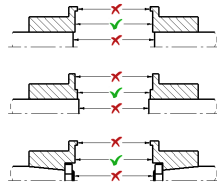

Figure 4
**IMPORTANT** DBSE should be measured between the inner face of the hubs and should not be taken as the length of the transmission unit at its outer periphery. DBSE may not be equal to the precise distance between shaft ends. In particular, the faces of taper bored hubs may not be flush with the shaft end. Refer to Figure 4.